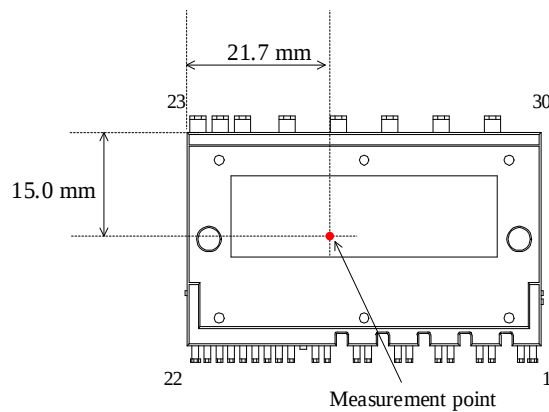

Figure 2-1. Case Temperature Measurement Point
| Operating Case Temperature (3) | $T_C$          | For the measurement point, see Figure 2-1.                      | -40 to 125 | °C   |         |